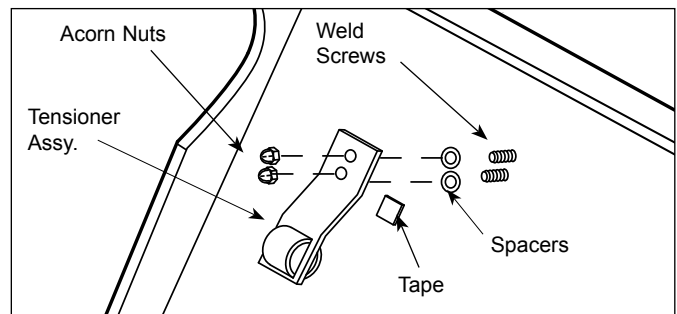

Figure 15. Replacing the Roller Tensioner
1. Remove the acorn nuts and old Roller Tensioner Assembly (Figure 15).